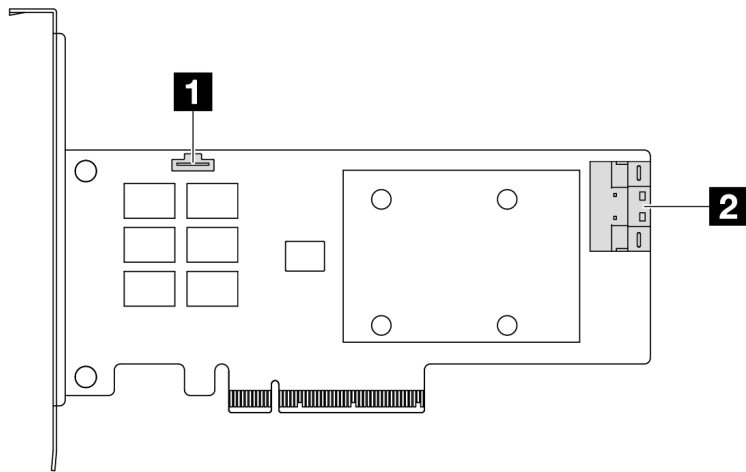

Figure 318. A Gen 4 8i SFF RAID/HBA adapter (one port connector)
- Figure 318 “A Gen 4 8i SFF RAID adapter (one port connector)” on page 344